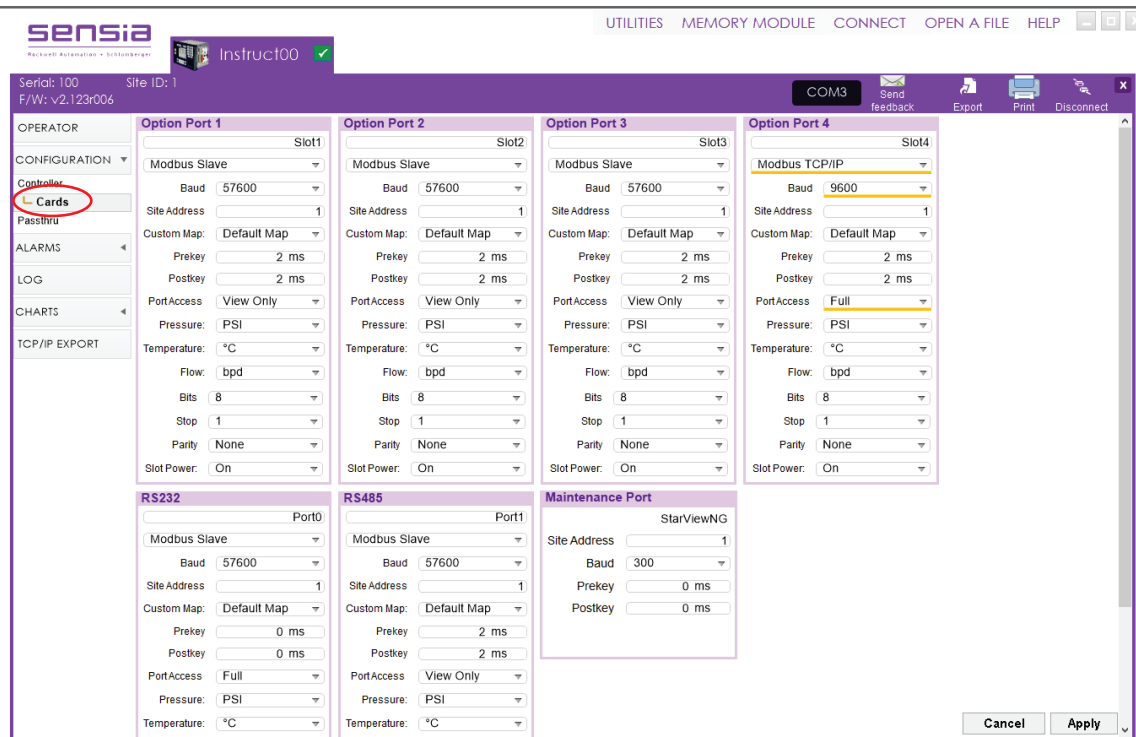

Figure 6-6: Port Configuration Screen
3. Navigate to the **CONFIGURATION>Controller>Cards** screen (Figure 6-6: Port Configuration Screen).